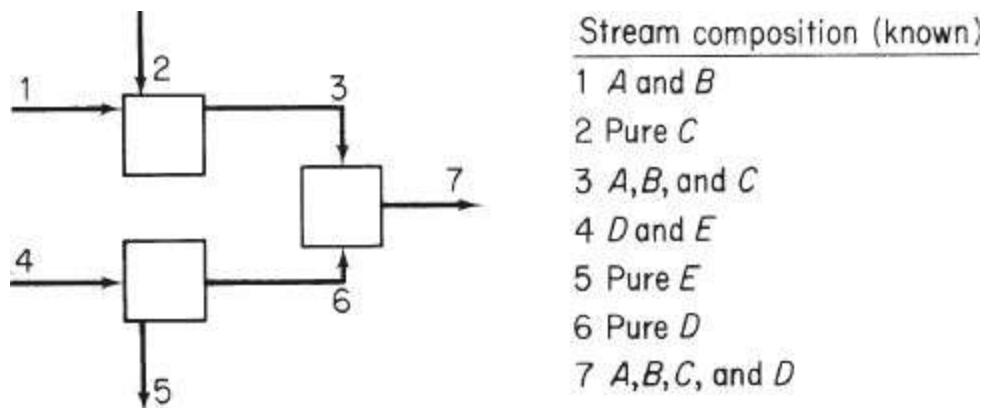

Figure P6.1.3
**6.1.3. What is the maximum number of independent material balances that can be written for the process in Figure P6.1.3? The stream flows are unknown. Suppose you find out that A and B are always combined in each of the streams in the same ratio. How many independent equations could you write?